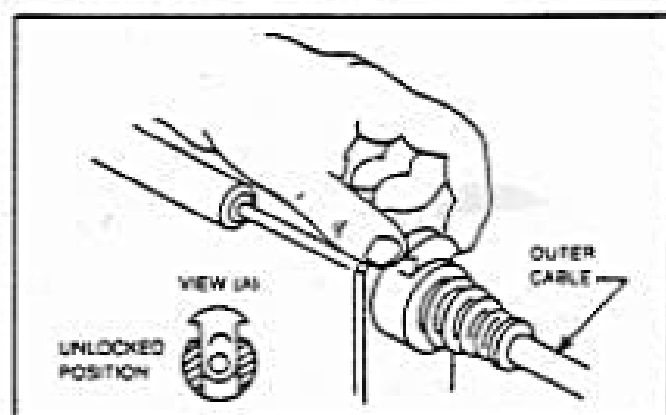

FIG. 4
4. Unlock outer cable lock. (Refer Fig. 4).